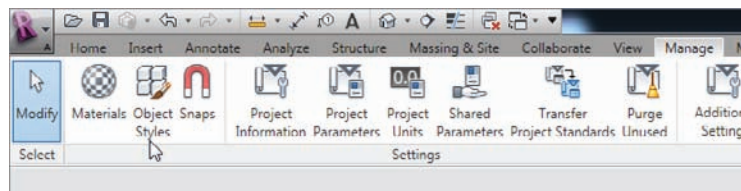

FIGURE 12.1 Object Styles is located at left on the Manage tab.
2. Notice that the perimeter of the walls and the roof are extremely heavy in contrast to the finer lines that divide the submaterials. This is what you'll change. On the Settings panel of the Manage tab, click the Object Styles button at left on the Ribbon, as shown in Figure 12.1.